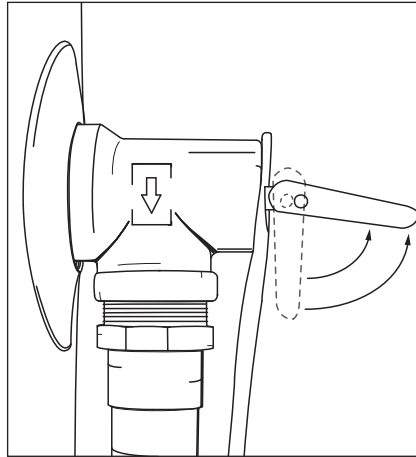

Figure 54 - T&P Relief Valve
- At least annually, inspect the T&P Relief Valve and discharge pipe for damage caused by corrosive water conditions and mineral deposits. Operate the T&P Relief Valve manually to ensure the waterways are clear and the valve mechanism moves freely (see Figure 54). Before operating the valve manually, check that it will discharge in a place for secure disposal.